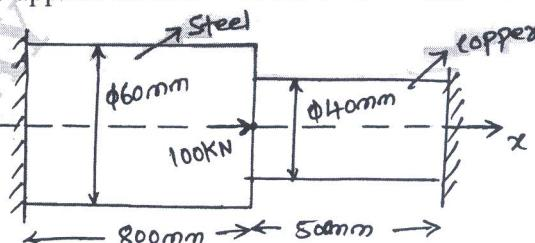

Fig Q5(a)
5. a. Determine the nodal displacement, stress in each elements and support reaction in the bar shown in Fig Q5(a) due to applied force $P = 100kN$. Take $E_{steel} = 200GPa$, $E_{cu} = 100GPa$.